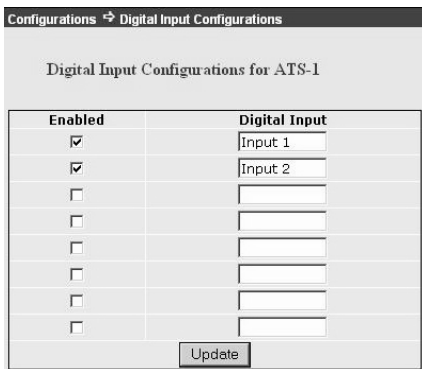

Figure 21: PM Status Input configuration
- Repeat steps 2 and 3 for each PM Status Input that is ACTV (on). The second row is *Status Input 2*, etc. See Figure 21.